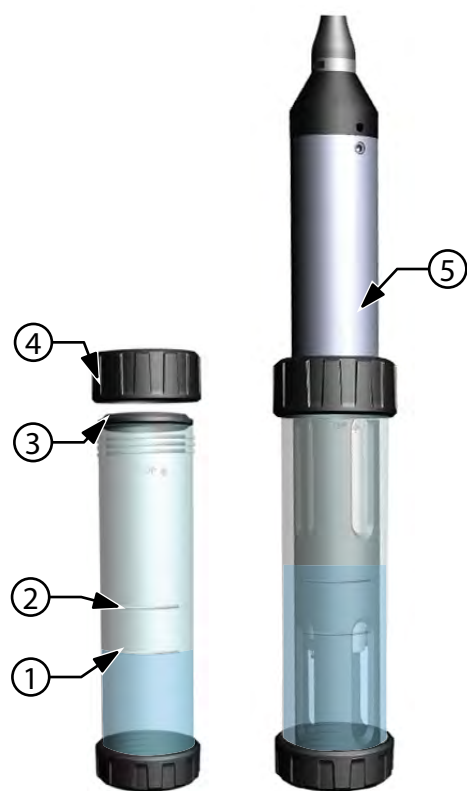

Figure 44 Calibration cup standard volume
4. Refill the calibration cup with fresh calibration standard to approximately the first line for pH, ORP, and turbidity calibration. Fill to the second line for conductivity calibration (Figure 44 on page 34).
- 1. Make sure the calibration cup gasket is correctly seated (Figure 44). Loosely install the retaining nut on the calibration cup.